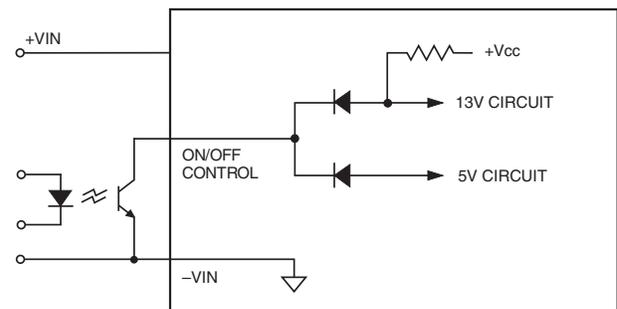

Figure 4. Driving the Negative Logic On/Off Control Pin (simplified circuit)
**Negative** ("N" suffix) logic devices are off when pin is left open (or pulled high, applying +2.5V to +15V), and on when pin is pulled low (-0.1 to 0.8V) with respect to -Input as shown in Figure 4.